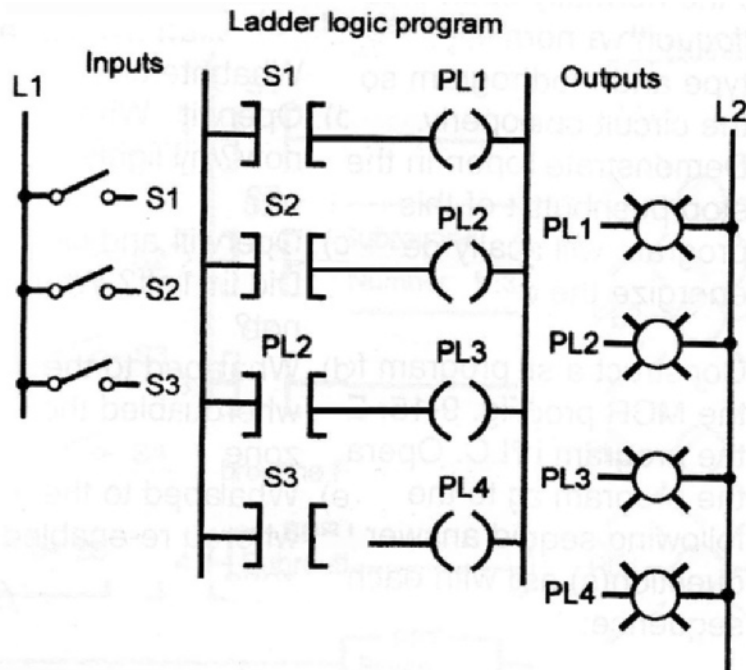

Figure 9-18 Program for assignment 10.
10) Construct a simulated program for the ladder logic program of Figure 9-18. Enter the program into the PLC. Operate the program to force specified inputs and outputs according to the following sequence: